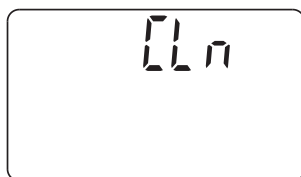

FIG. 17
- **Light flashing, with "CLn" shown in the display** (See Fig. 17) - Four months have elapsed on the system's timer since start up or the last reset.